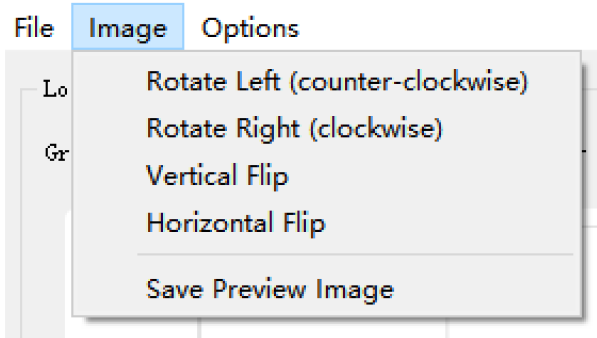

Figure 2-6-7
6. **Image:** Support image left and right rotation, vertical/horizontal flip transformation and save the adjusted image, as shown in Figure 2-6-7